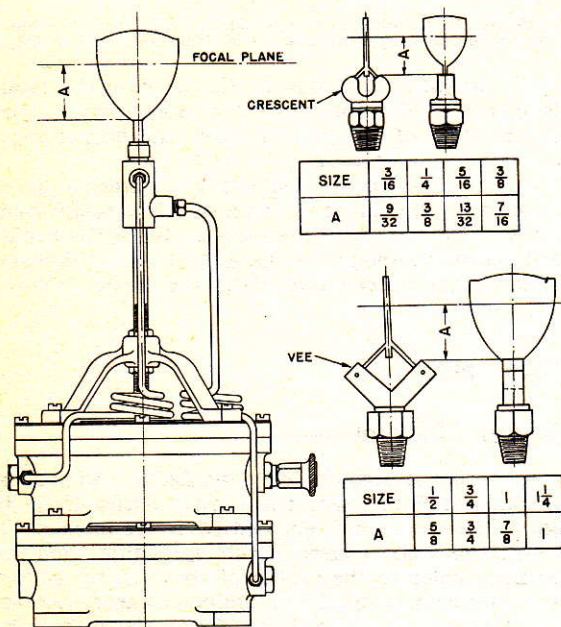

FIGURE 20-42.—Focal height of acetylene burners.
A. Adjustment of focal height of flasher.—When acetylene lights are reported extinguished or burning dimly, maladjustment of the focal height of the flasher is frequently the cause. The center of the flame area as indicated on figure 20-42 must be adjusted to a line through the horizontal center of the lens (focal plane). For further details on focussing see Chapter 21.